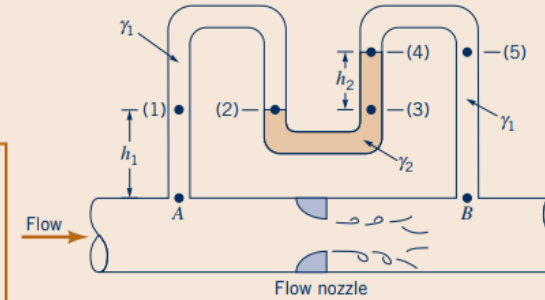

Figure E2.5a
**GIVEN** As will be discussed in Chapter 3, the volume rate of flow,  $Q$ , through a pipe can be determined by means of a flow nozzle located in the pipe as illustrated in Fig. E2.5a. The nozzle creates a pressure drop,  $p_A - p_B$ , along the pipe that is related to the flow through the equation  $Q = K\sqrt{p_A - p_B}$ , where  $K$  is a constant depending on the pipe and nozzle size. The pressure drop is frequently measured with a differential U-tube manometer of the type illustrated.